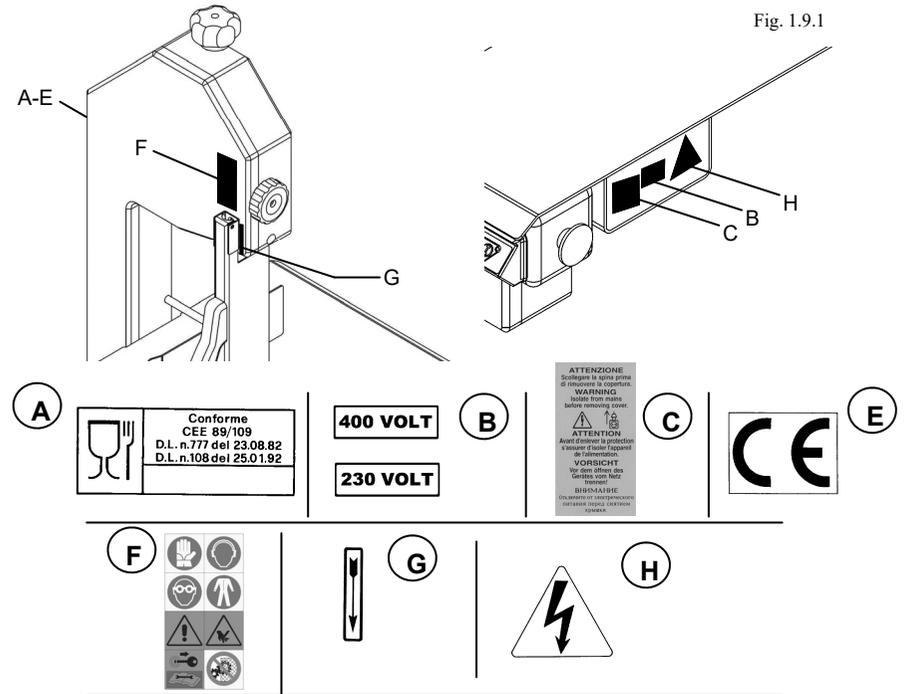

Fig. 1.9.1
1.9 Warning Signs and Labels (Fig. 1.9.1)